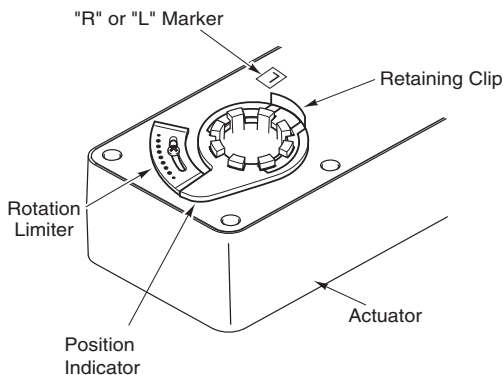

Figure-4 Installation of AM-689 Rotation Limiter.
1. Place the position indicator on the actuator as shown in Figure-4.